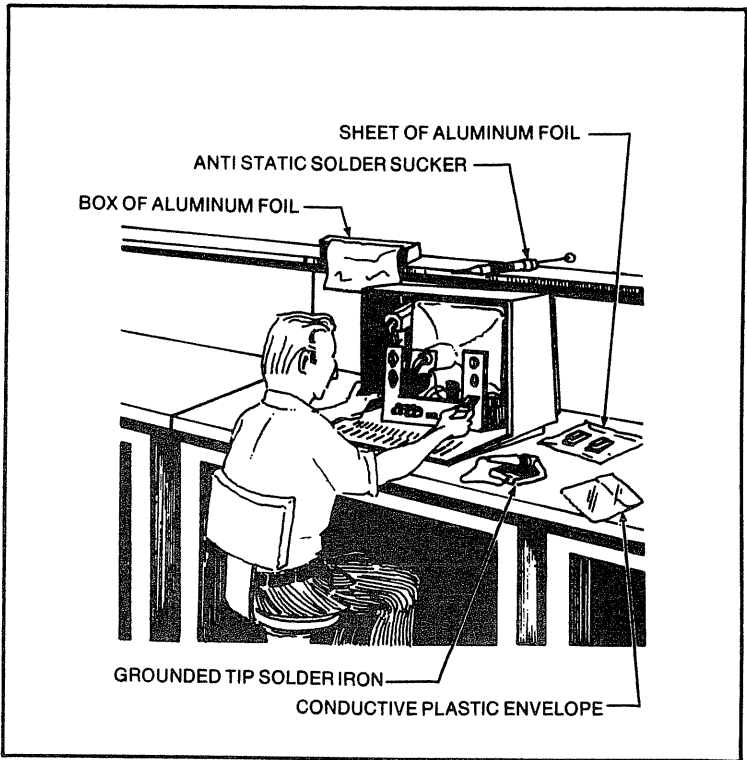

Fig. 5-30. Workbench setup for servicing equipment that has MOS devices.
- Touch the metal chassis just before picking up a module or component for installation. A MOS conductive work bench is shown in Fig. 5-30.